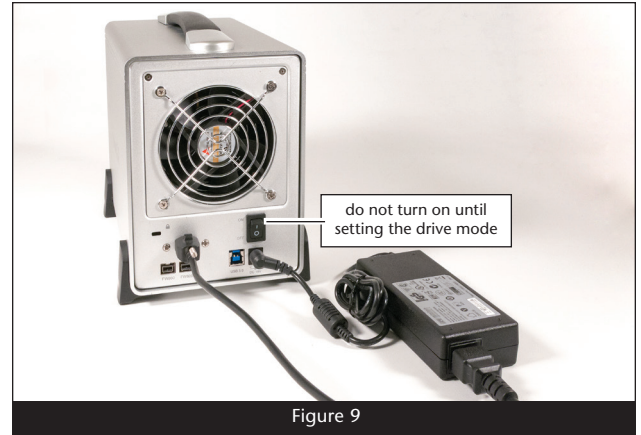

Figure 9
1. Using *one* of the supplied cables (eSATA, FireWire 800, USB 3.0), connect the Fusion QR to your computer. For maximum performance, connect the QR to a SATA host controller card (Figure 9).
2. Connect the included power cord between a wall outlet or power strip and the power adapter; verify the connector is plugged in securely; **verify the cable is plugged in securely (Figure 9).**
3. Connect the power adapter cable to the Fusion QR's 19V power socket; **verify the cable is plugged in securely (Figure 9).**